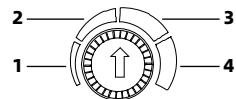

Figure 5-3 Speed knob gear
- When F10.23 hundred = 1 (select gear), the speed knobs select the gear, as shown in Figure 5-3.